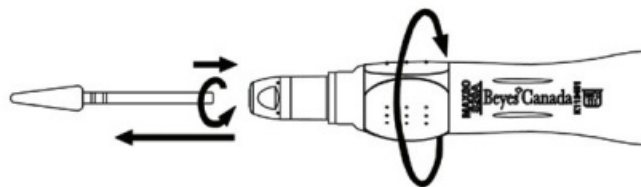

Fig.3
1. Open collet by turning grip 1/4 turn (clockwise) as shown in Fig 3 until you feel the “click”.